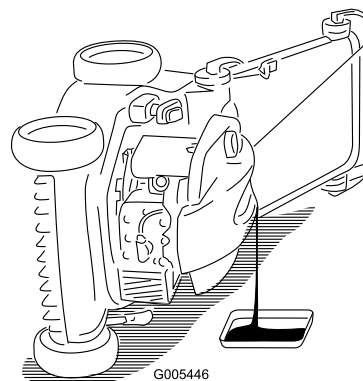

Figure 24
3. Tip the mower onto its side, with the air filter up, to drain the used oil out through the oil fill tube (Figure 24).